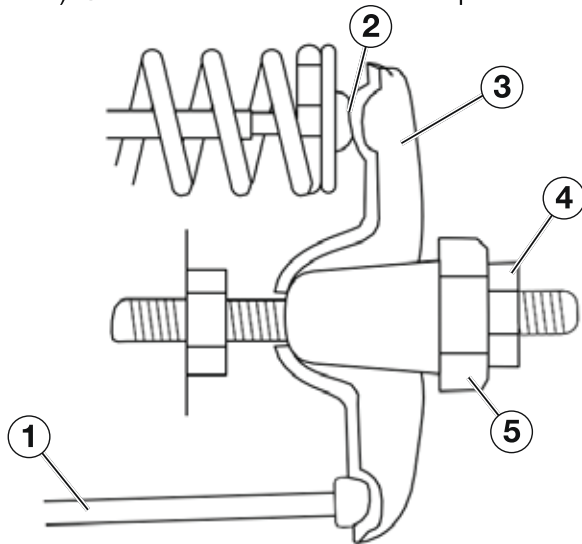

Figure 20
5. Insert a feeler gauge between the rocker arm and the push rod and check for clearance (see Figure 20). See table below for valve lash specifications